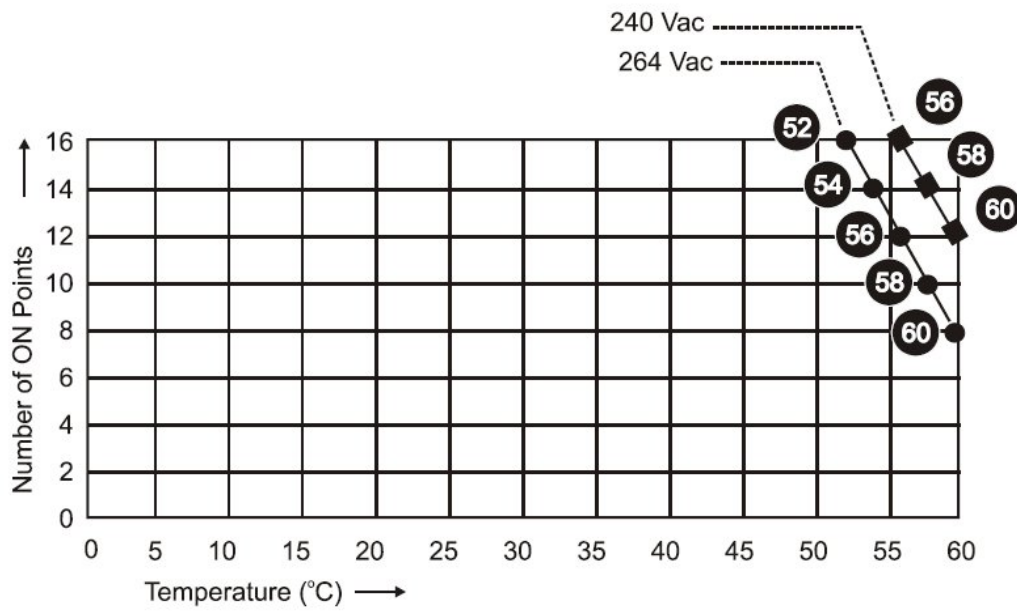

Figure 31 – AC Input Module de-Rating
2. For 240 Vac applications and temperatures above 56° C, or 264Vac, 52° C, de-rate the number of ON inputs per AC input module. (See AC Input de-rating data, see Figure 31.)